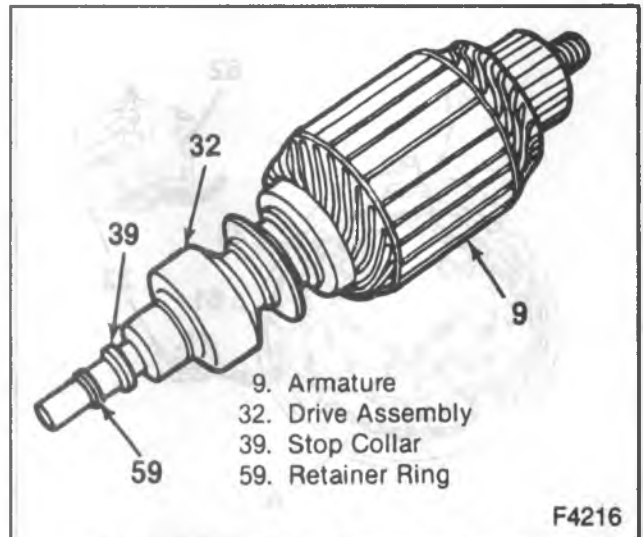

Figure 8—Retaining Ring on Armature
- Drive assembly (32) from the armature shaft (9) as follows:
- Remove the pinion stop washer (34) or thrust collar (39) from the armature shaft.
- Drive the stop collar (39) away from the pinion stop retainer ring (37) by sliding a metal cylinder onto the armature shaft and with a hammer, striking the metal cylinder against the stop collar (figures 8 and 9).
- Bolts (35) attaching the solenoid (3) to the drive housing.